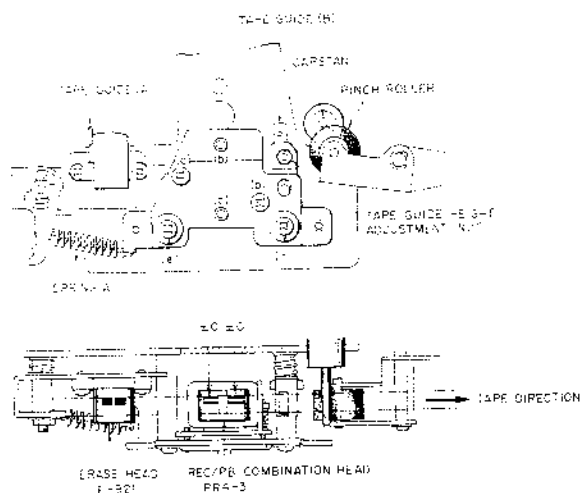

Fig. 16
(Refer to Figs. 16, 17)
2. HEIGHT ADJUSTMENT OF RECORDING/PLAYBACK COMBINATION HEAD (Refer to Fig. 16)
- 2) As shown in Fig. 16 adjust head height with screws (a), (b), (c) and (d) until the upper edge of the left channel REC/PB combination head core
3. AZIMUTH ALIGNMENT ADJUSTMENT OF RECORDING/PLAYBACK COMBINATION HEAD (Refer to Fig. 16)
COMBINATION HEAD (Refer to Fig. 16)
(Refer to Figs. 16, 18)